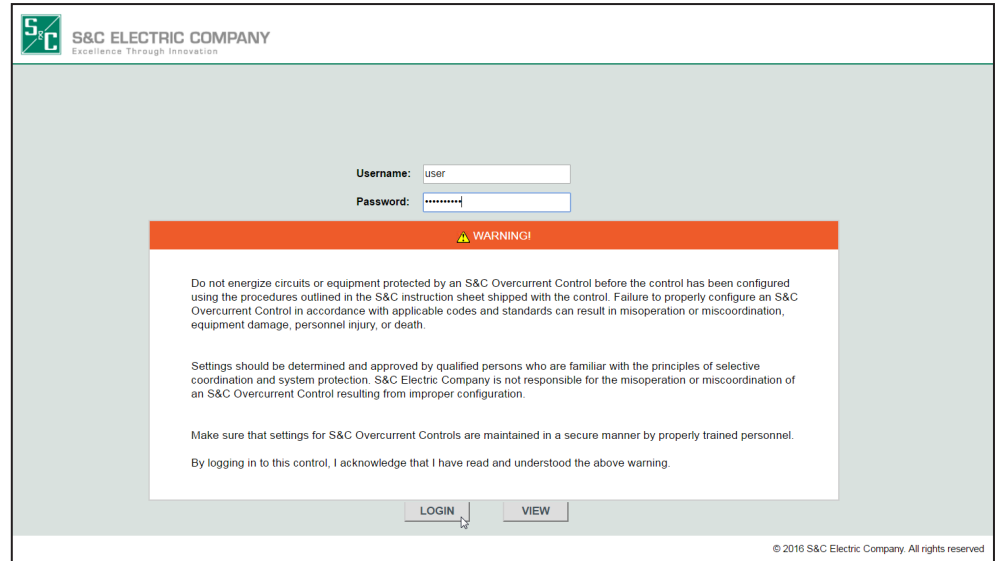

Figure 10. Enter the username and password.
STEP 1. At the *Login* screen, enter the user username and password. See Figure 10.